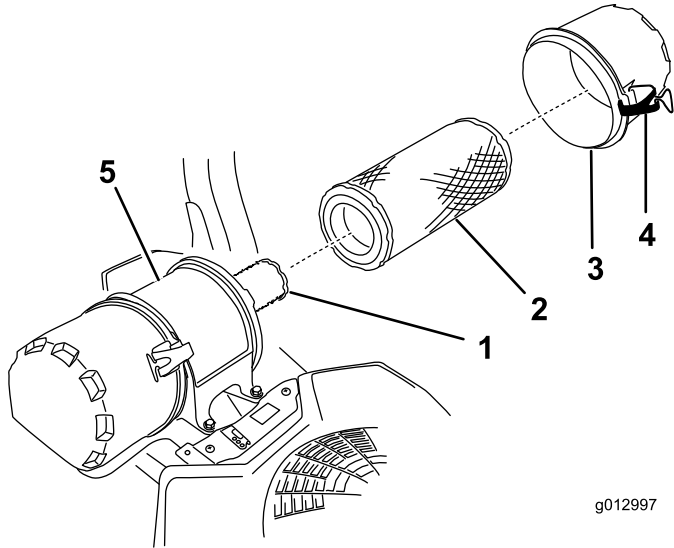

Figure 42
6. Release the latches on the air cleaner and pull the air-cleaner cover off the air-cleaner body (Figure 42).
8. Gently slide the primary filter out of the air-cleaner body (Figure 42).
- If the inner filter is being replaced, carefully slide it into the filter body (Figure 42).
- Carefully slide the primary filter over the inner filter (Figure 42).
- Install the air-cleaner cover and secure the latches (Figure 42).